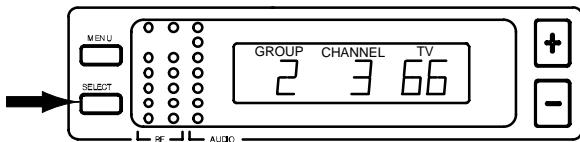

FIGURE 13
4. Press the "SELECT" button to choose Group or Channel. The current Group, Channel, and TV channel setting appears, as shown in Figure 13. (Models sold outside the U.S. and Canada may not display TV channel.)